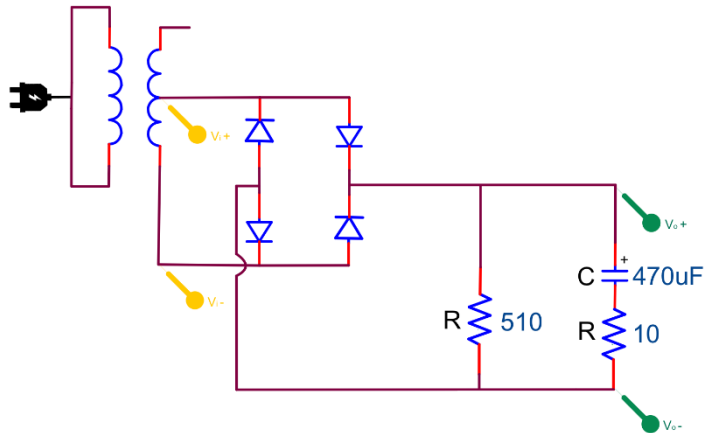

Figure 4.12
8. Construct Figure 4.12. Note the change in the charge and discharge currents. Measure the output voltage and compute the ripple. Compare these results to those obtained in parts 2 and 3. What is the relationship between the percent ripple and the value of the capacitor used?